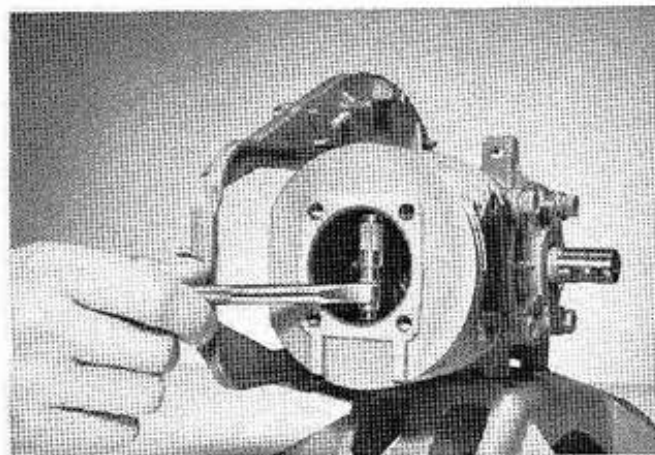

Figure 75. Cylinder Bore Sizing.
- g. Sizing and inspection of the cylinder bore can be accomplished with an inside micrometer. (See Figure 75.) If the measurement is .003 or more over 2.1265, the cylinder bore should be rebored or a new short block engine should be in-